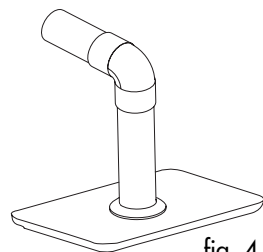

fig. 4
- fit the longest part of the pipe on the flange stove (fig. 4).